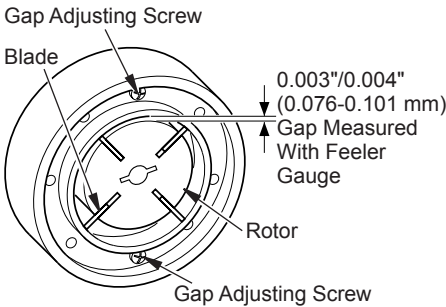

Figure 20 - Gap Adjusting Screw Locations
9. Check gap on rotor. Adjust to 0.076/0.101 mm (0.003"/0.004") if needed (see Figure 20, page 14).